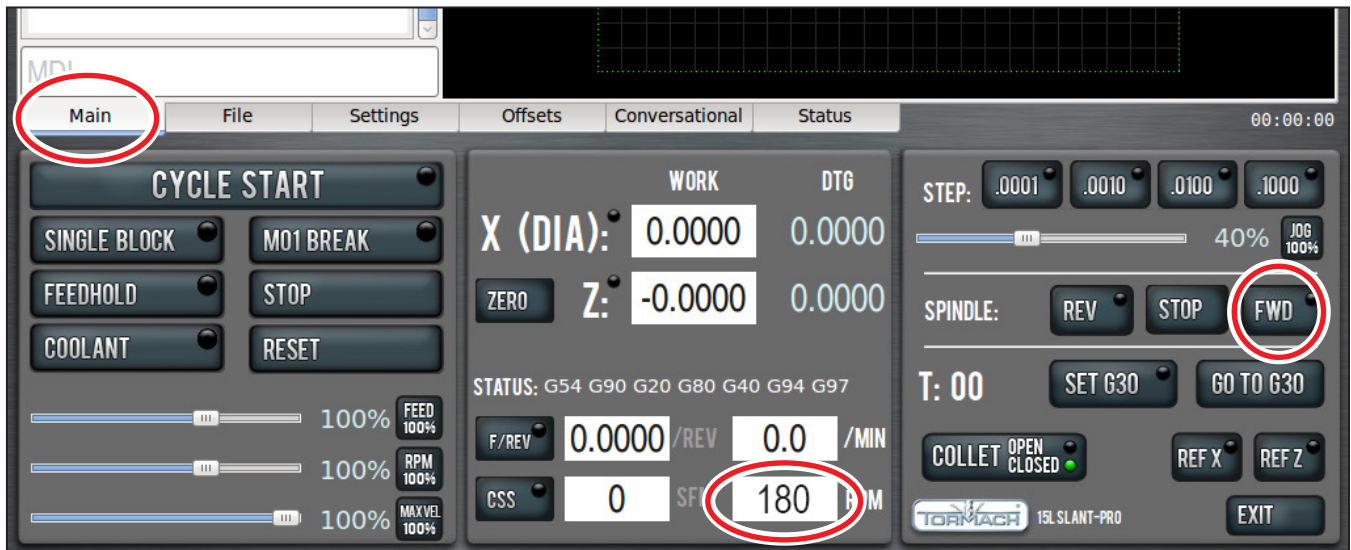

Figure 3.1
2. On the *Main* screen in the PathPilot™ interface, set chuck speed by entering 180 in the RPM field (see **Figure 3.1**).
3. Click Spindle *FWD* to start spindle rotation (see **Figure 3.1**).